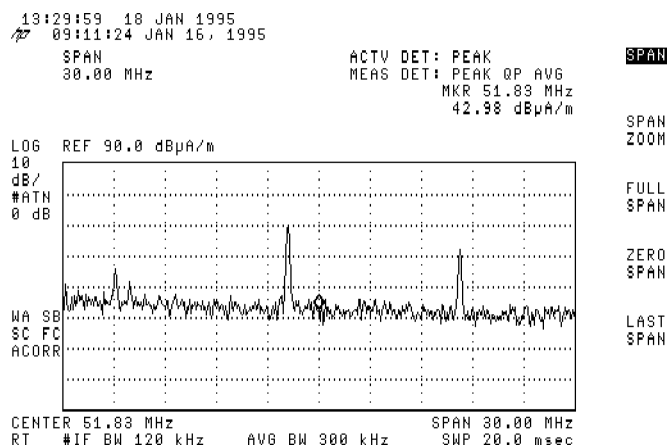

Figure 7-4. Reducing the span.
- To reduce the span, use the keypad to input the desired span, for example, 30 **(MHz)**. Refer to Figure 7-4.